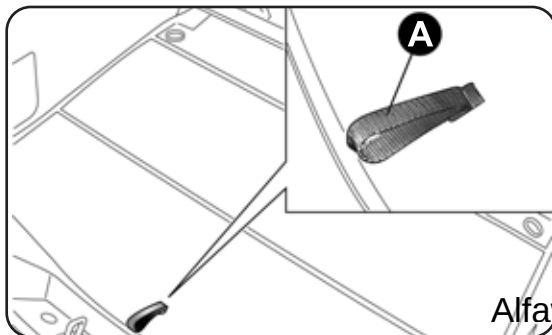
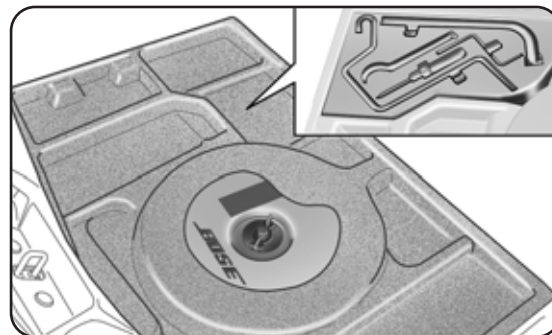
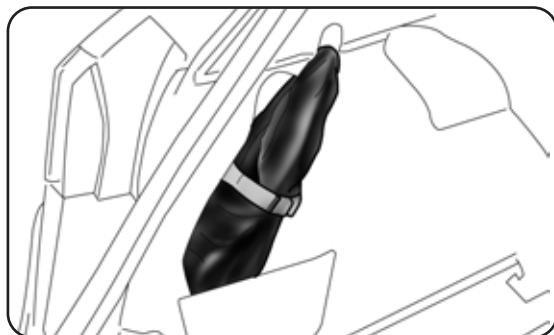
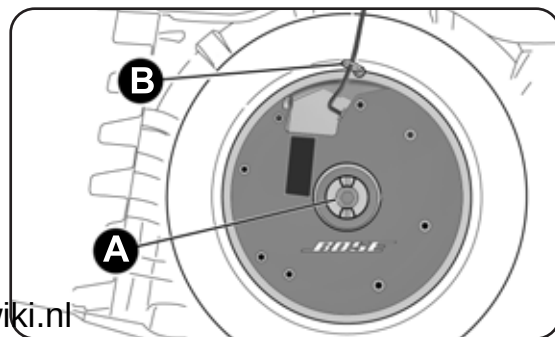

fig. 113
fig. 119
fig. 119a
fig. 120
- open the boot, pull tab A-fig. 113 and lift up the mat;
On these versions, the tools needed for changing the wheel are arranged in a specific container on the left-hand side of the boot (see fig. 119). The jack is located in a pocket, again on the left-hand side of the boot (see fig. 119a).
- open the boot, pull the tab A-fig. 113, lift the mat upwards and remove the load compartment spacer fig. 119;
- loosen the fastening device A-fig. 120, remove the clip B fastening the cable and then lift the subwoofer;
- reposition the subwoofer wire correctly to avoid pinching it. Then fasten the clip B-fig. 120 and fasten the blocking device. Finally, position the load compartment spacer fig. 119 correctly and lower the boot mat.